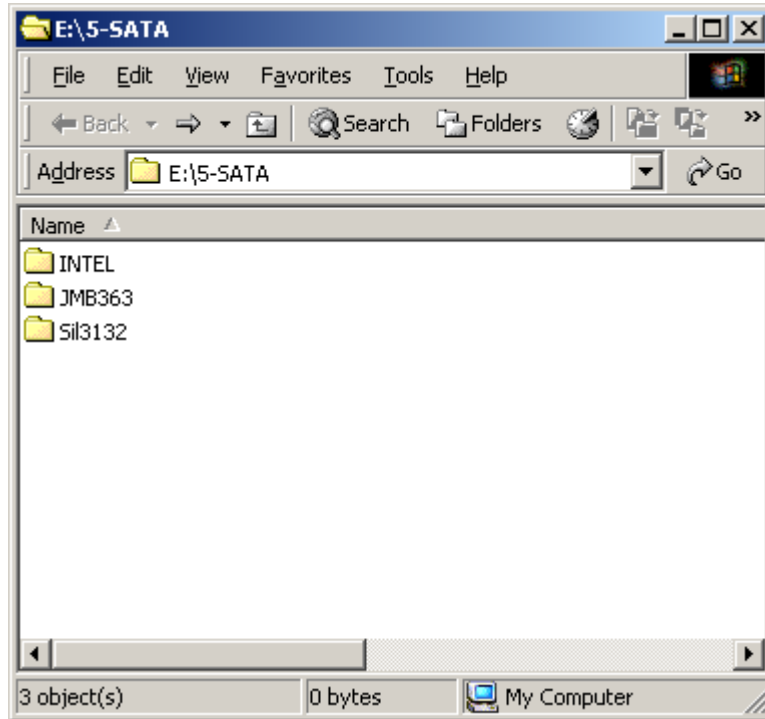

Figure 7-24: SATA RAID Driver Installation Program
Step 2: A new window opens (**Figure 7-24**).